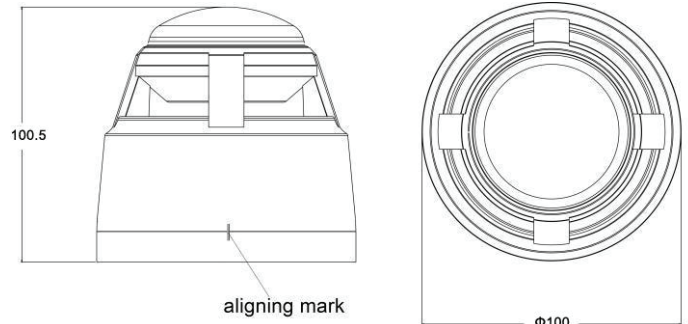

Fig.1
13. Dimension: $\phi 100\text{mm} \times 100.5\text{mm}$ (with base), See Fig1.